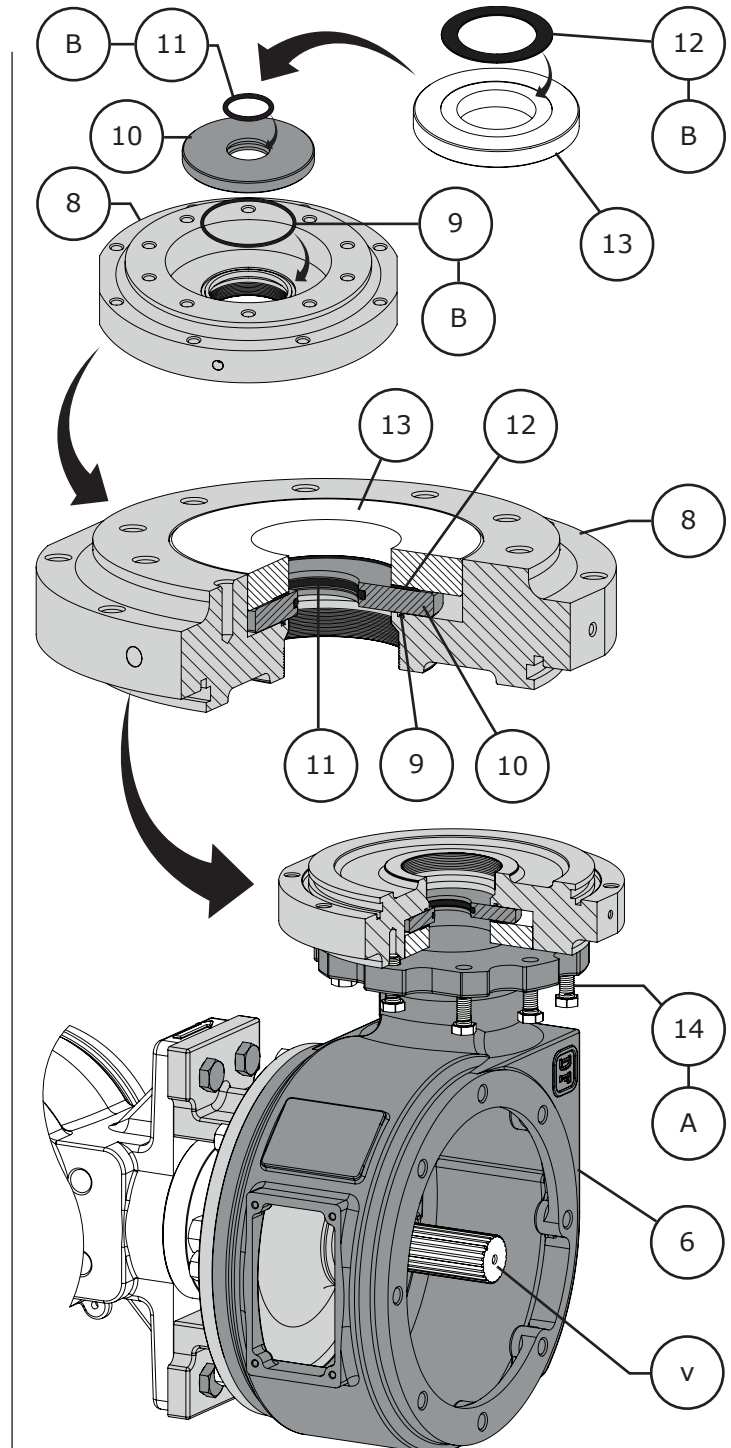

Figure 21 Cylinder Base / Sliding Seal Assembly
- 2 Apply Lubriplate® MAG-1 Lithium Grease (Key B) to the o-ring (Key 11) and insert the o-ring into the o-ring groove of the sliding seal (Key 10). Refer to Figure 21.
- 5 Set the seal support (Key 13) into the cylinder base (Key 8) so that the thrust washer (Key 12) sits on top of the sliding seal (Key 10). Refer to Figure 21.
- 6 Apply Permatex® Nickel Anti-Seize (Key A) to the threads of the cap screws (Key 14) and while holding the cylinder base assembly (Keys 8, 9, 10, 11, 12, and 13) together install the assembly onto the actuator housing (Key 6). Refer to Figure 21 and Table 3 for cap screw (Key 14) torque specifications.